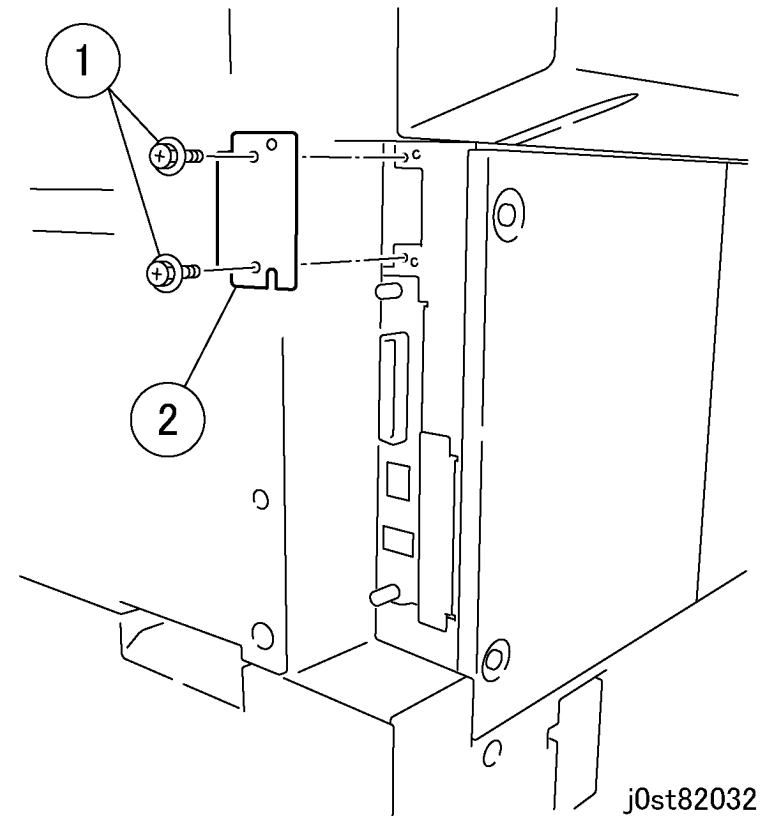

Figure 1 Removing the Panel (j0st82032)
1. Remove the Panel. (Figure 1)